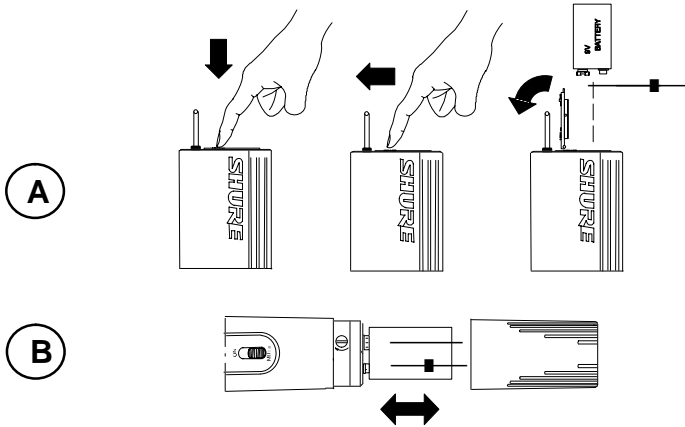

FIGURE 6
4. Insert a fresh 9 V battery into the battery compartment as shown in Figure 6.